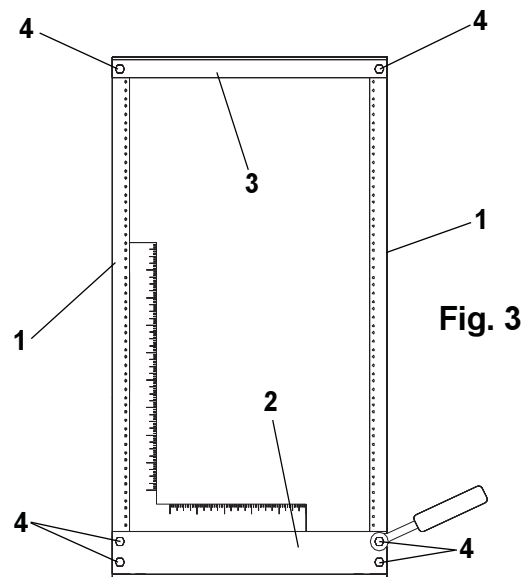

Fig. 3
STEP 3: Final tightening (see Fig. 3).